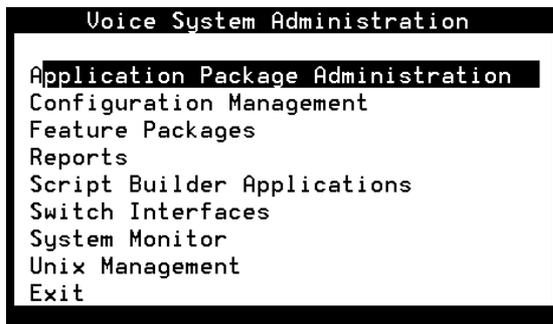

Figure 2-34. Voice System Administration Menu
The system displays the Voice System Administration menu (Figure 2-34)
6. Press **F6** (Cancel) until you return to the Voice System Administration menu (Figure 2-34).
The system displays the Voice System Administration menu (Figure 2-34).